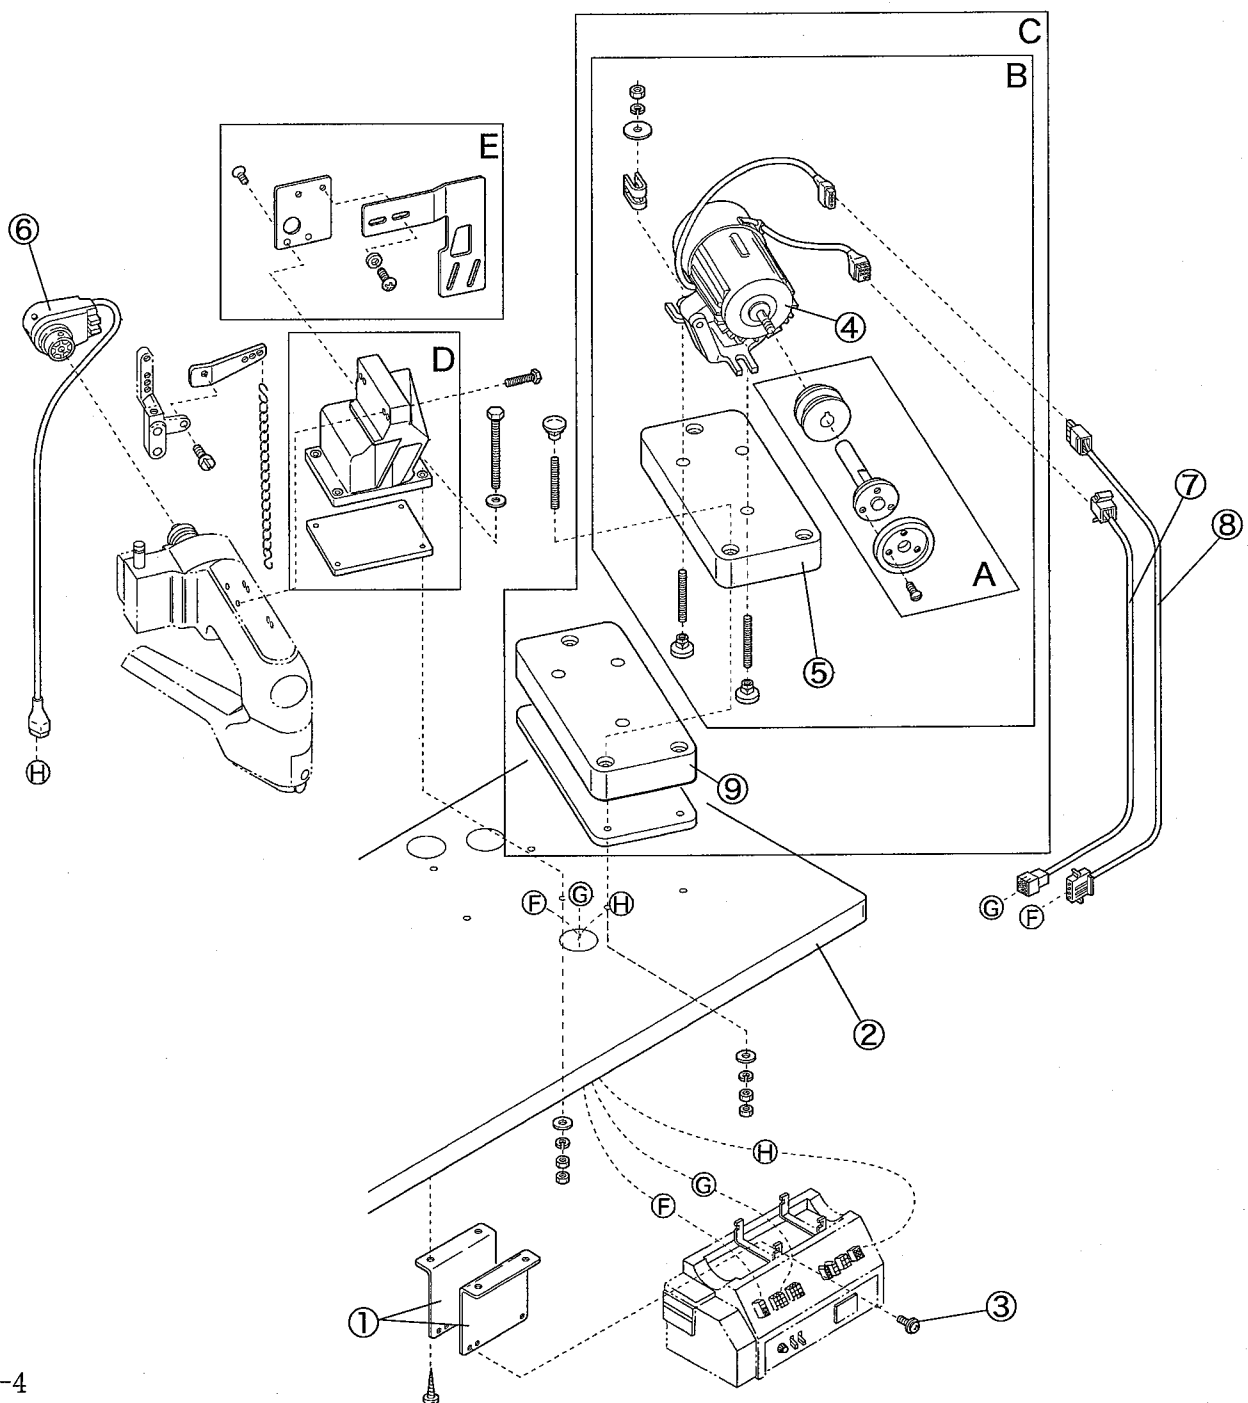

Fig. 2-4
#### Motor support (Fig. 2-3 ③ and ⑧, Fig. 2-4 ⑤ and ⑨)
See Fig.2-4 to assemble the machine according to the following steps: